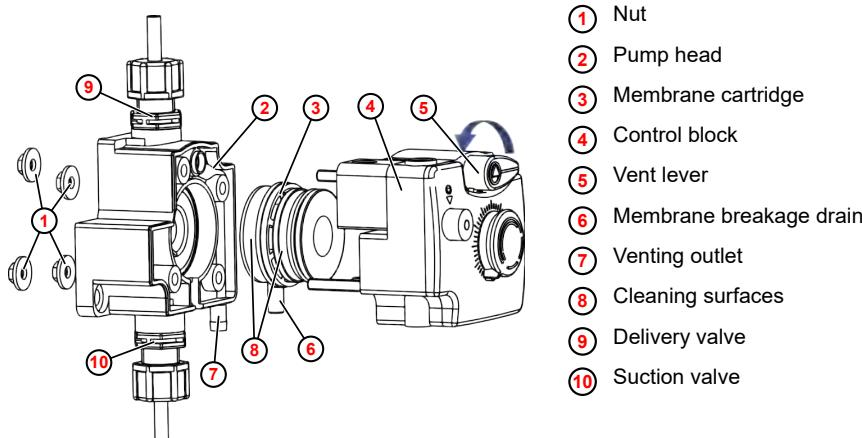

Fig. 20: Replace the pump head
If vent lever (Fig. 20, ⑤) is closed but dosing product still escapes from the vent drain (Fig. 20, ⑦), the vent lever must be adjusted.